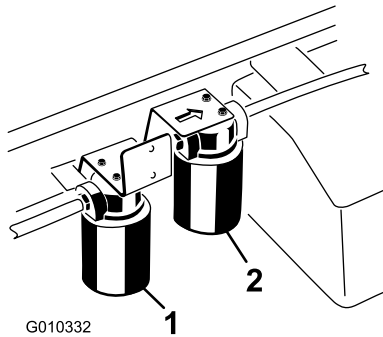

Figure 75
3. Place a drain pan under the filter and remove the filter (Figure 75).
1. Clean the area around the high-flow-filter mounting area (Figure 75).